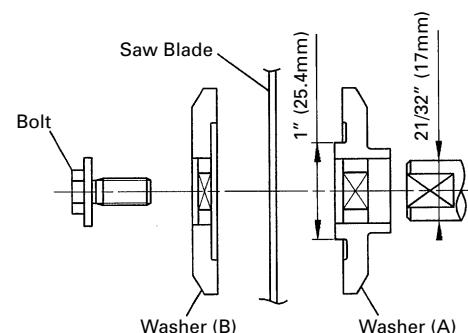

Fig. 37-d
(7) Press in the spindle lock and tighten the bolt by turning it to the left by standard accessory's wrench (17mm box wrench) as indicated in Fig. 37-c.